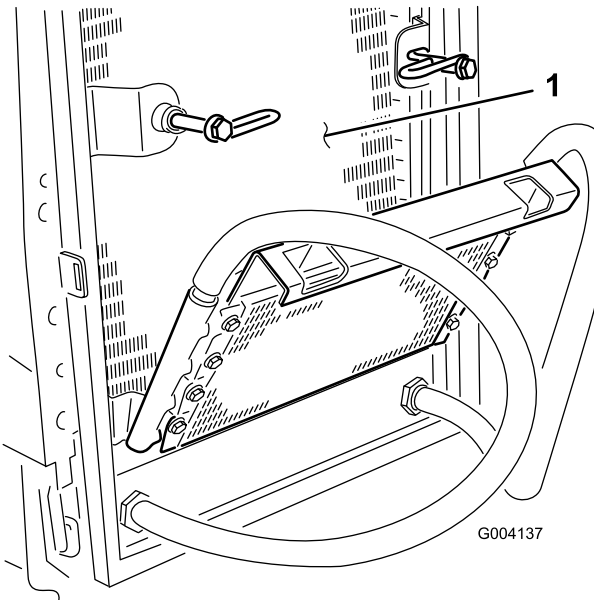

Figure 65
6. Thoroughly clean both sides of the oil cooler and the radiator (Figure 65) with compressed air.